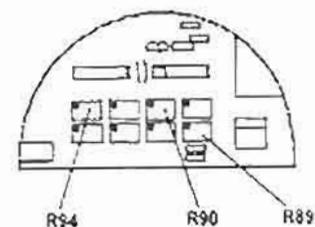

Figure 3-46. BLEND 2 power calibration.
(5) Depress the yellow "BLEND 2" keyboard switch.
(6) Set "CUT POWER" to 200 watts by depressing the up (Δ) keyboard switch until 200 shows in the center digital display.
(7) Adjust resistor R94 to approximately midpoint and turn resistor R90 fully clockwise (fig 3-46).
(8) Depress the "CUT" pedal on the monopolar footswitch.
(9) Observe the wattmeter and adjust resistor R94 until the wattmeter indicates 200. Release the "CUT" pedal.
(10) Change the wattmeter load to 100 ohms.
(11) Turn resistor R89 counterclockwise to its midpoint.
(12) Depress the "CUT" pedal on the monopolar footswitch.
(13) Observe the wattmeter and adjust resistor R90 until the wattmeter indicates 150 ± 50 . Release the pedal.
(14) Change the wattmeter load to 300 ohms.
(15) Depress the yellow "BLEND 1" keyboard switch.
(16) Depress the "CUT" pedal on the monopolar footswitch momentarily and observe the wattmeter which should indicate 200. Record the watts, if out of tolerance.
(17) Depress the yellow "BLEND 3" keyboard switch.